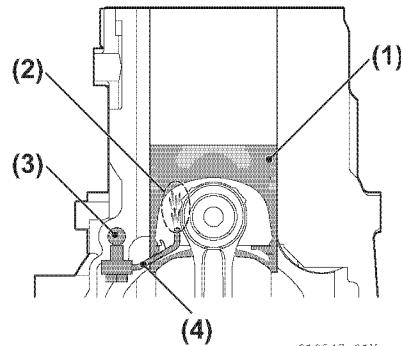

Figure 8-18
1. Check the nozzle end hole (diameter 1.8 mm [0.071 in.]) for dust or other foreign matter (**Figure 8-18**).